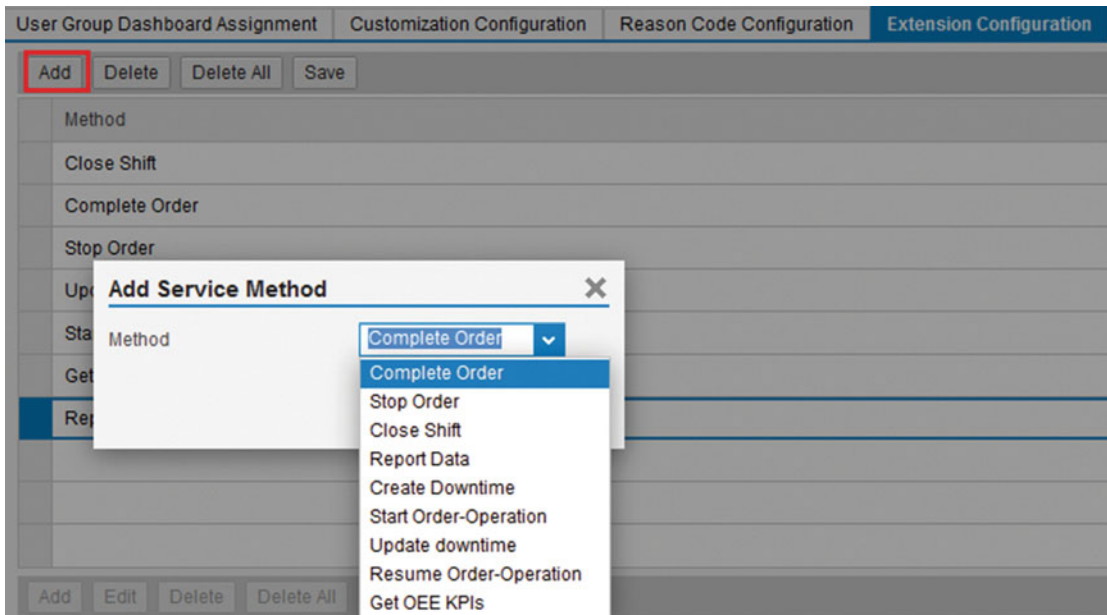

Figure 5-24. Extension configuration: add service method
3. Select the Add button in the top pane to add a standard method from the drop-down. Refer to Figure 5-24.